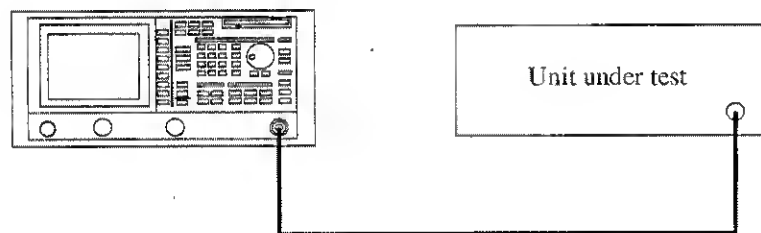

Figure 2-60 Setup for Measuring the Adjacent Channel Leakage Power
1. Connect the unit under test as shown in Figure 2-60.